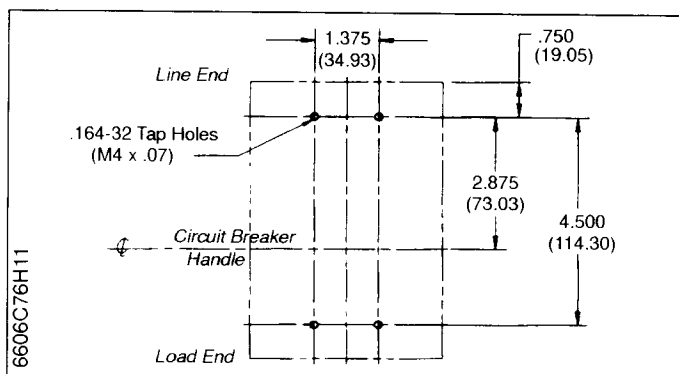

Fig. 2-1 MCP, HMCP and HMCPs Mounting Bolt Drilling Plans
- a. For individual mounting panels, make sure that mounting panel is predrilled using drilling plan (Fig. 2-1)